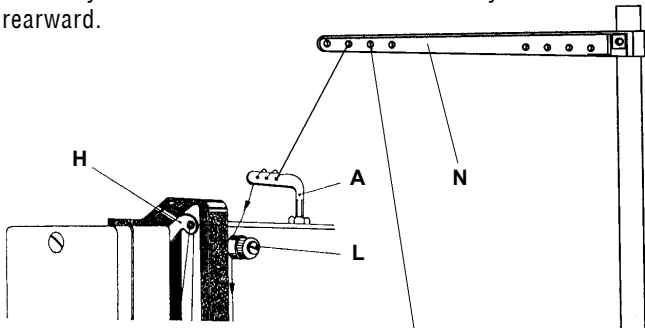

Fig. 1
6.1 Upper thread threading (Fig. 1, 2)
6.4 Adjustment of the upper thread tension (Fig. 1, 2, 5)
When the machine is provided with a thread cutter of thread (version -105), its correct function is to be given major attention in adjusting correctly the thread tension. It is necessary to set correctly the auxiliary tensioner (L, Fig. 1) the function of which influences the length of the upper thread end which is projecting from the needle eye after having cut the thread. When correctly setting of the tensioner, the quality of the initial stitches is good and no unthreading of the thread out from the needle occurs.